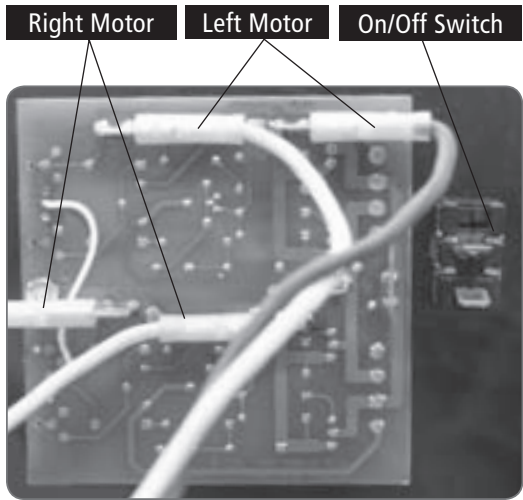
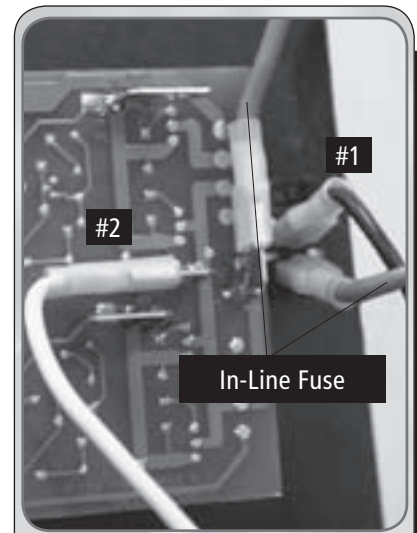

Figure 14 Wiring diagram for all two motors.
Figure 13
5. Remove four screws holding the controller into the control box casting. Note the position of the motor wires on the controller, then disconnect the wire for the motor to be replaced (See Figure 14 on page 14).
3. Remove four screws holding controller faceplate into main casting. Note the position of the main power and motor wires on the controller, then disconnect the wires. See Figure 14 for the two motor wires. See Figure 13 for the main power cord wires.
Be sure wires are correctly reinstalled. Verify motor rotation prior to machine usage. See Figure 14 for the two motor wires and Figure 13 for the power cord wires.